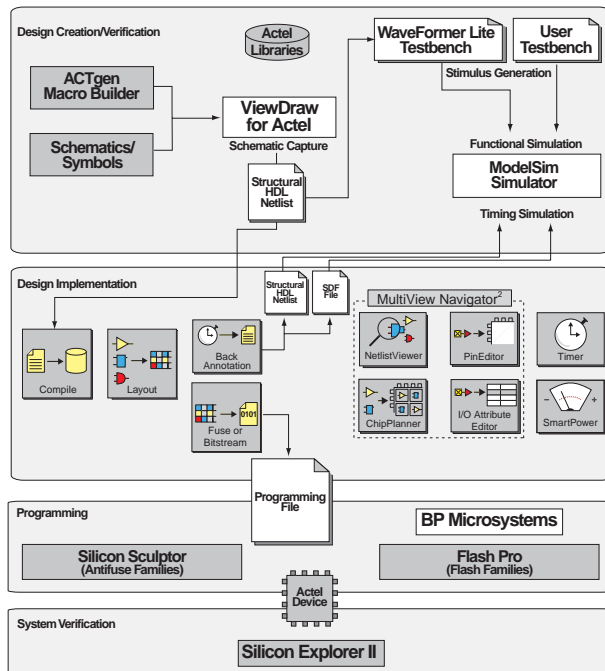

Figure 2-1. Actel Schematic-Based Design Flow
Figure 2-1 shows the schematic-based design flow for an Actel device using Designer Series and third-party schematic capture software.¹
1. Actel-specific utilities/tools are denoted by the grey boxes in Figure 2-1.